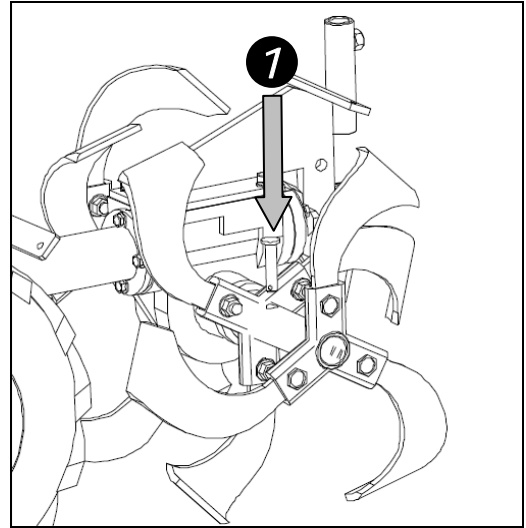

Fig.3
2. Insert the lock-pin 1(Fig.3) shaft through the hole of the tine extension and the driving axle..